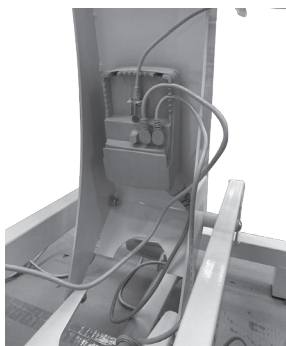

Fig.7
- Connect the cables of actuators and remote control to the control unit as shown in Fig.7.
NOTE: Fig.7 refers to connection mode of cables (electric supply, remote control, two actuators) to control box for MI380X-MI381X-MI390X-MI391X models; for MI382X-MI383X-MI392X-MI393X models, where only a single actuator is present, the installation mode of the control box is identical, but the connection mode of cables (electric supply, remote control, one actuator) is shown in Fig.4a.